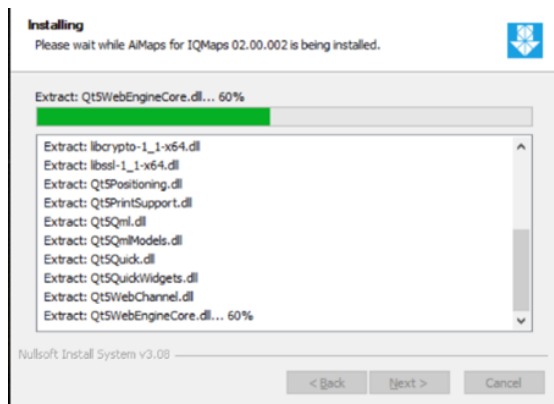

Fig. 11 AiMaps install step 3
4. Wait until installation process is completed (Fig. 11) and press **NEXT**,